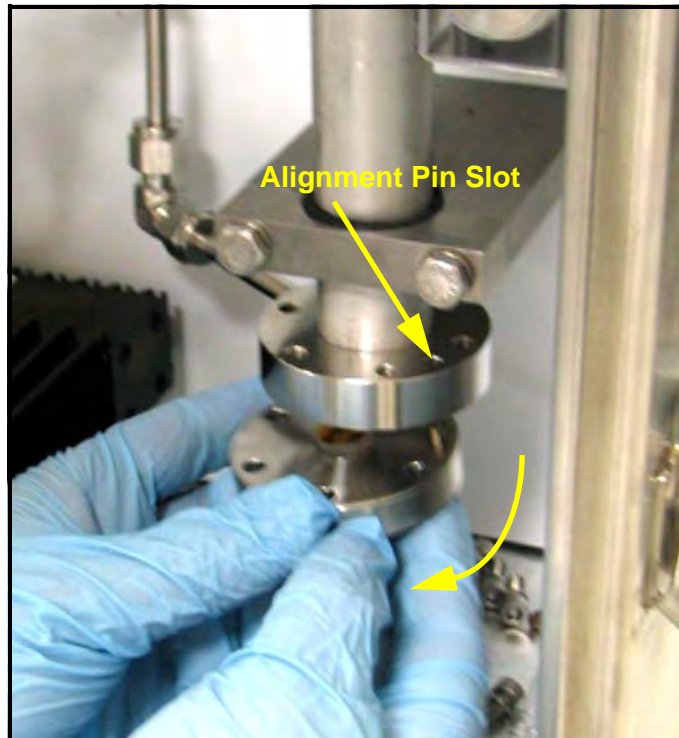

Figure 80: Reinstalling the Mirror Assembly
14. As you line up the mirror to the measurement cell, note the “key” for properly connecting the two pieces. The mirror will align in only one position for mounting. Rotate the mirror assembly to line up the alignment pin with the alignment pin slot (see Figure 80).